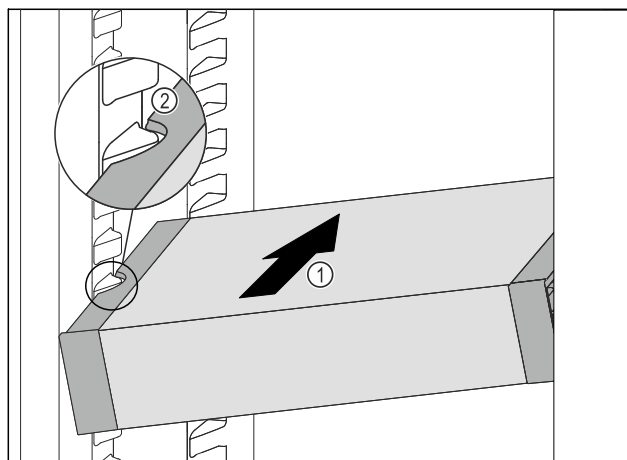

Fig. 126
- Insert the VarioSafe into the fridge section at an angle Fig. 126 (1) until the recesses in the side Fig. 126 (2) of the VarioSafe are at the level of the support rib in the fridge section.